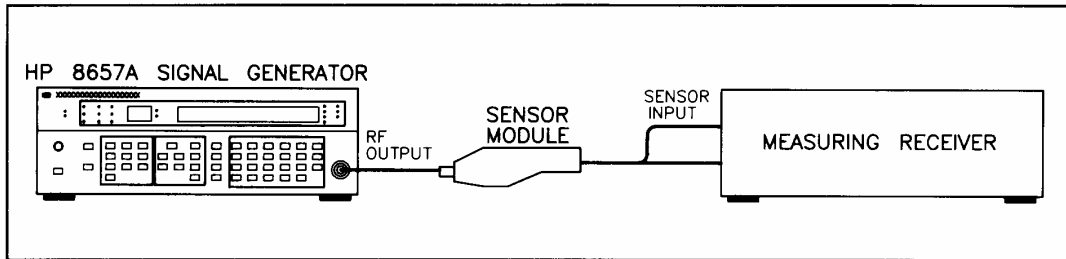

Figure 4-6. Output Level Accuracy and Flatness Test Setup
2. Connect the sensor module to the Signal Generator as shown in Figure 4-6.